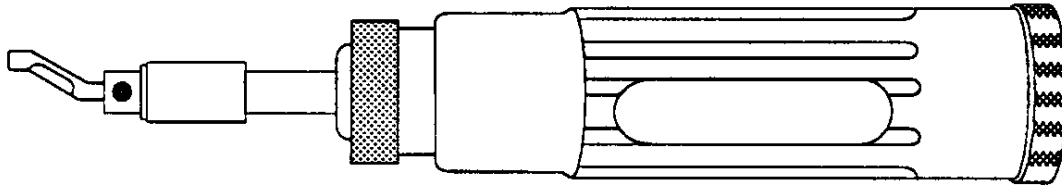

Figure 1 - Swivel Blade Edge Finishing Tool
5.3.1 Swivel Blade Edge Finishing Tool (see Figure 1)